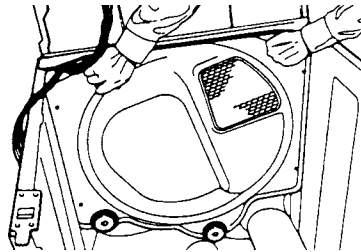

Fig. 46
6. Slide rear bulkhead assembly up and out of dryer. (Fig. 46)